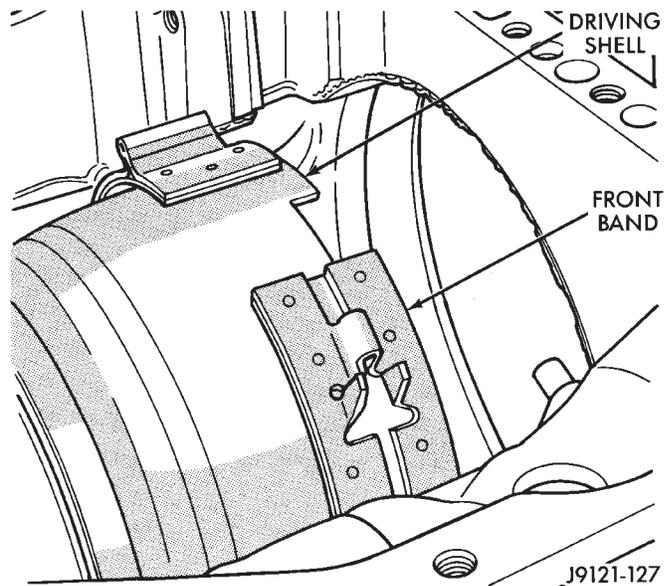

Fig. 125 Front Band Removal/Installation
(26) Slide front band off driving shell (Fig. 125) and remove band from case.